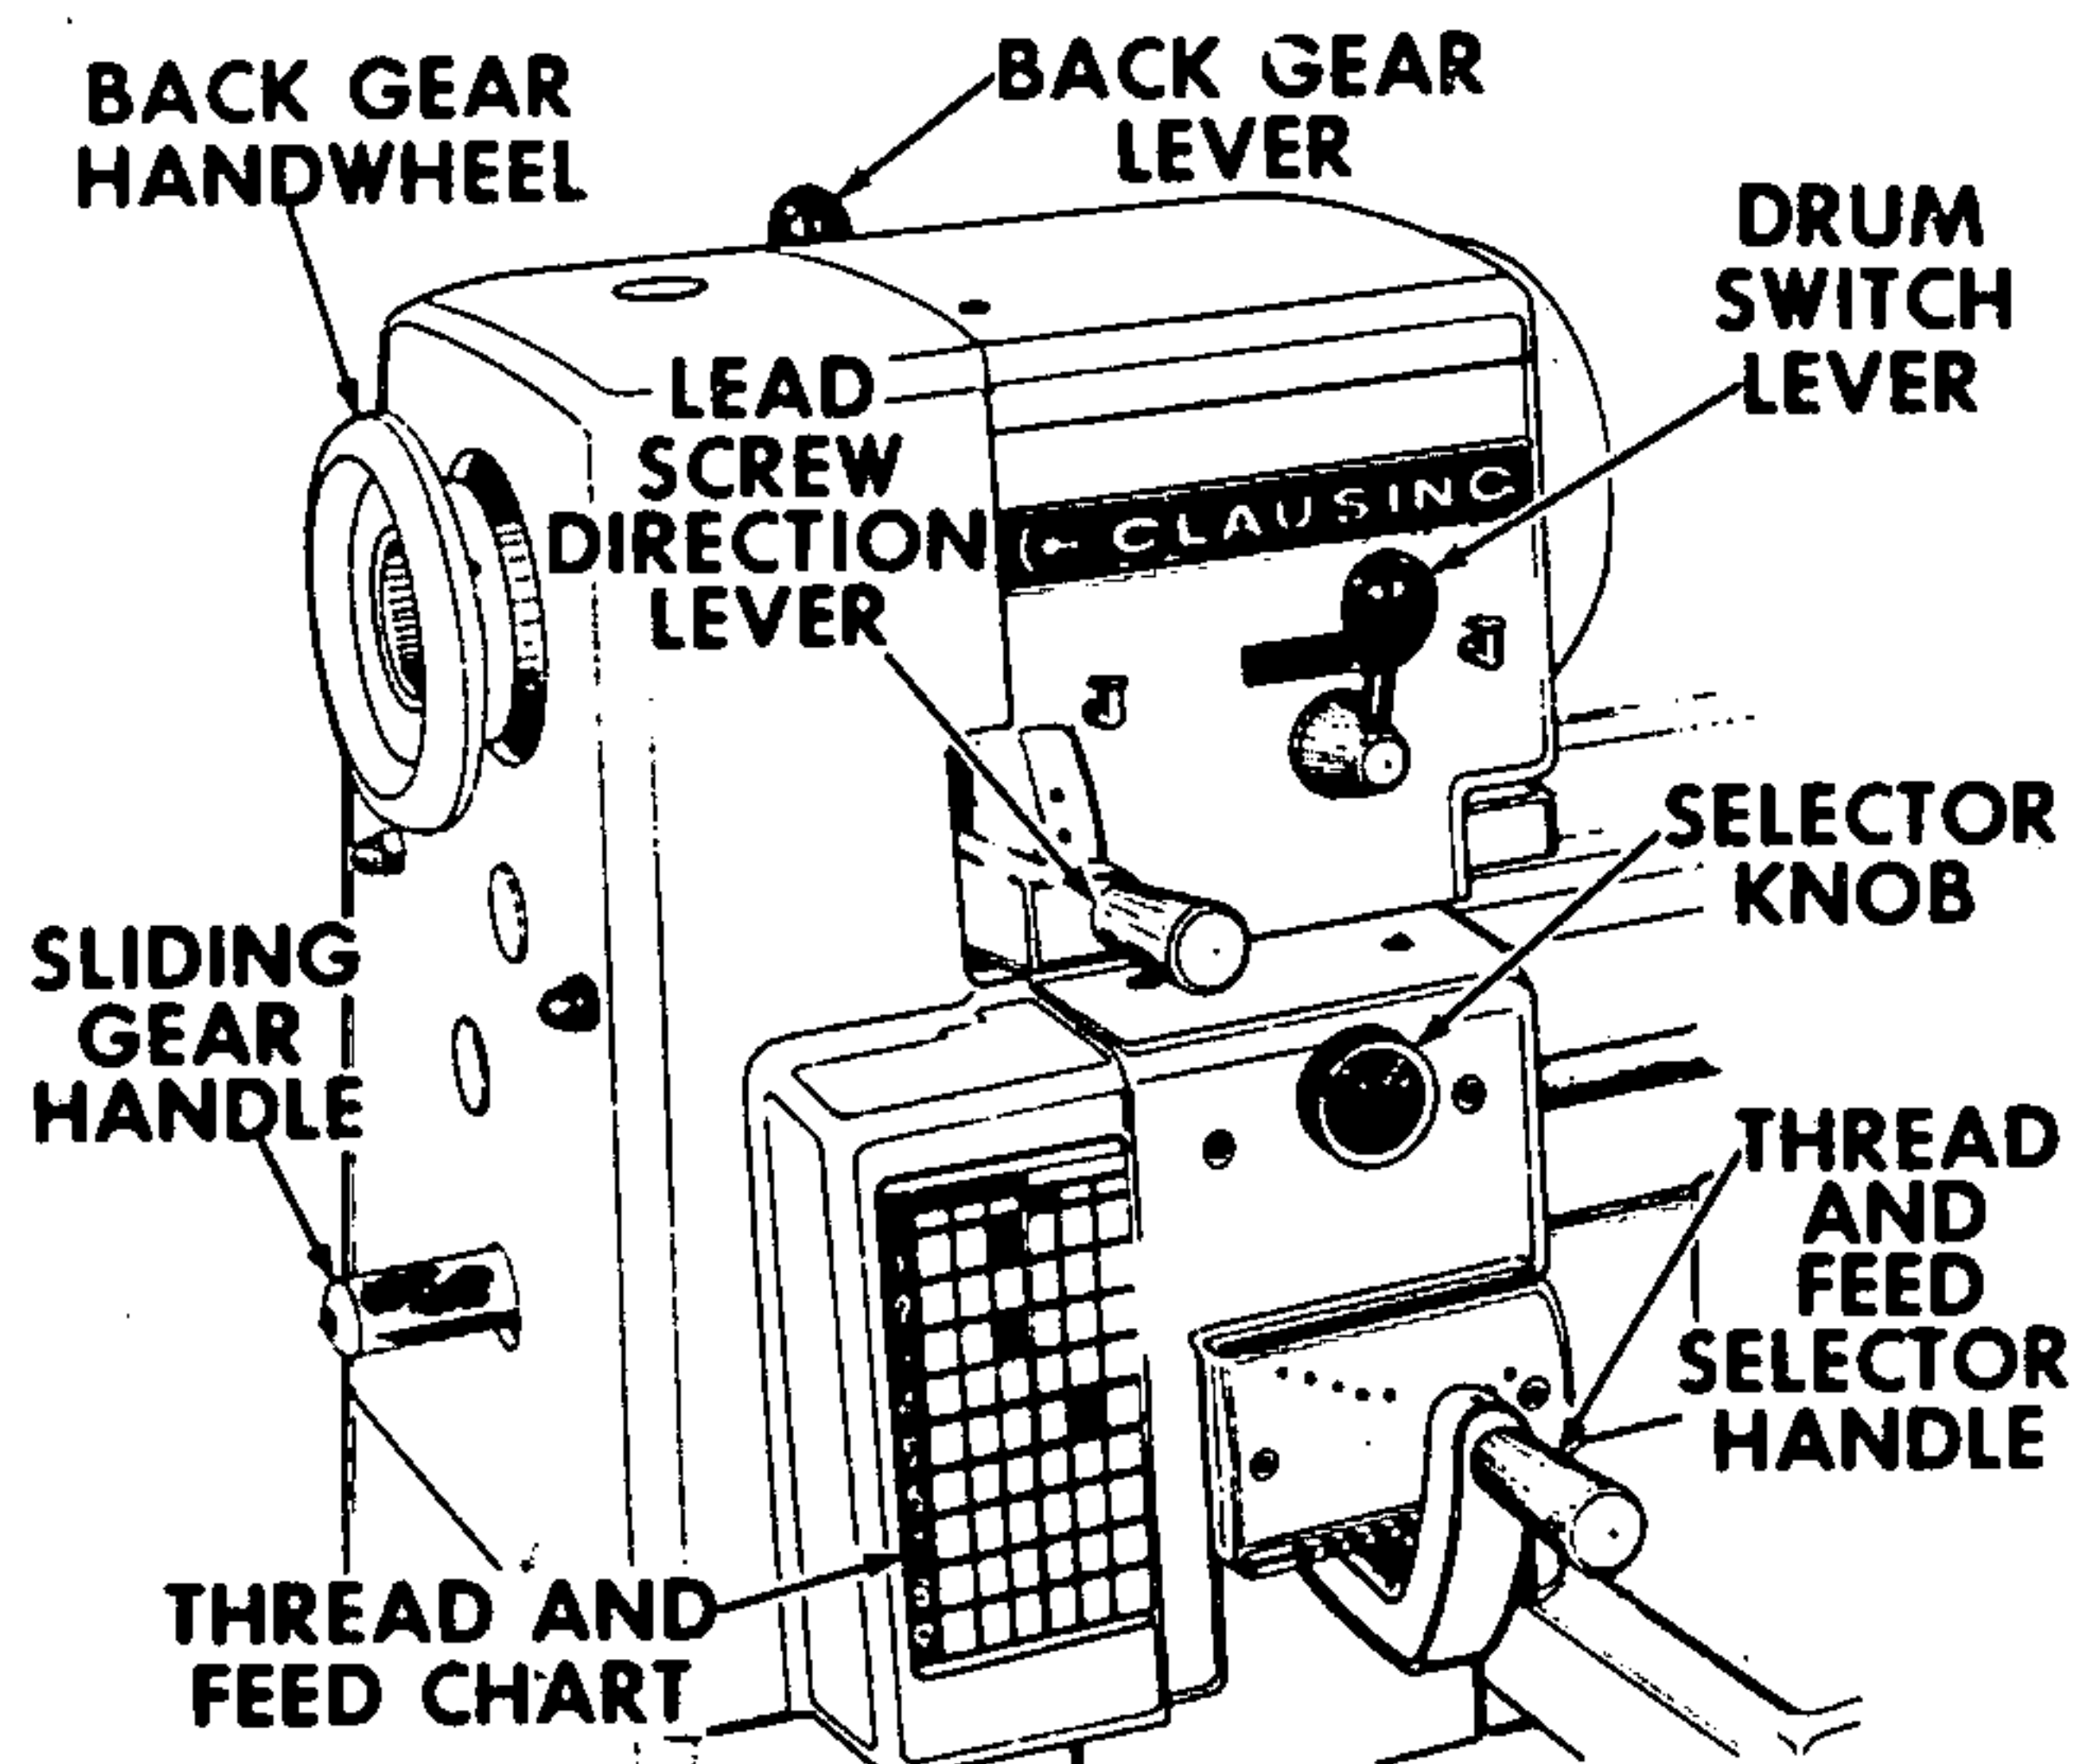

Figure 8
DRUM SWITCH LEVER located on front of headstock controls rotation of lathe spindle. It has three positions -- REVERSE, STOP, and FORWARD -- refer to figure 8.
NOTE: Control lever is equipped with a push-button-operated safety lock that prevents accidental reversing of spindle -- refer to figure 8.
1. Select thread or feed from chart and position controls as indicated -- refer to figure 8.